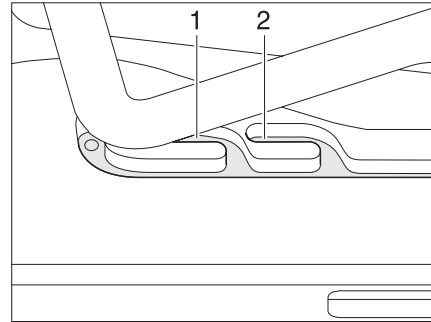
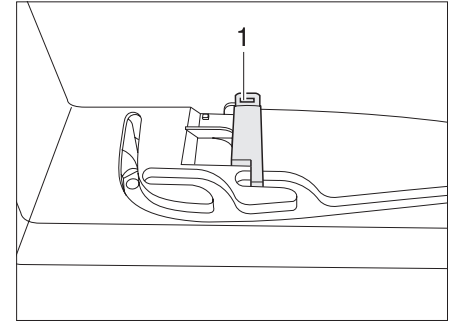

Fig. 46 Heki skylight in ventilation position
Fig. 47 Ventilation position locking mechanism
The Heki skylight can be put in two ventilation positions: Bad weather position (Fig. 46,1) and central position (Fig. 46,2). Depending on the model, the skylight can be locked in the central position with the latch (Fig. 47,1).
- ▶ Push the bar slightly upwards and into the selected guide (Fig. 46,1 or 2) and lock if necessary.